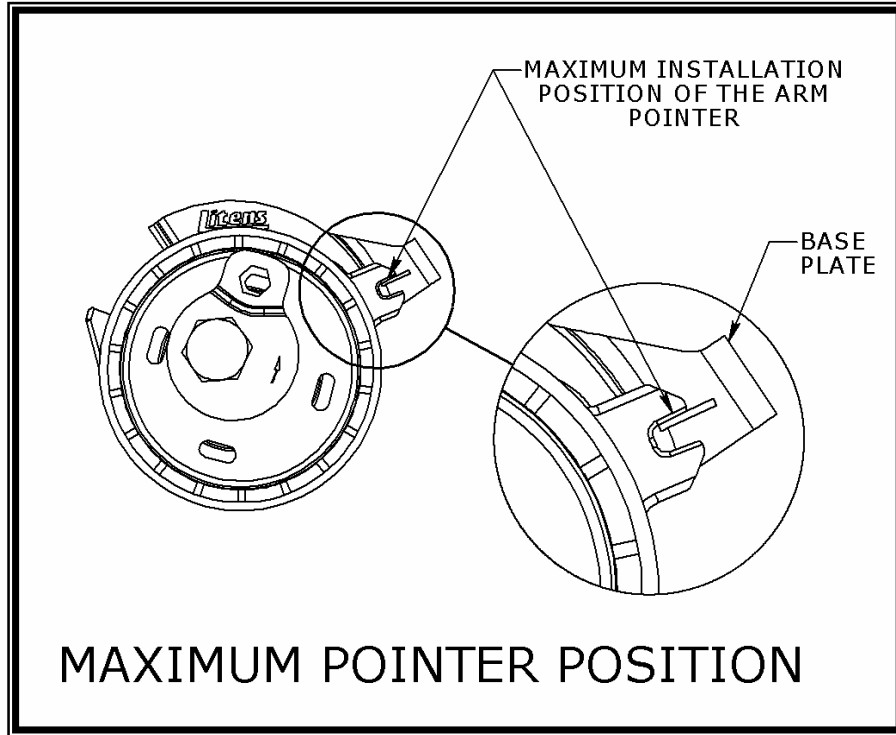

Figure 6: The Arm Pointer is adjusted at the MAXIMUM installation position at TDC.
If the *Arm Pointer* aligns between the **Maximum/Minimum Position Notch**, the installation is complete (See Figs. 6 and 7).
14. Rotate the *Installation Shaft* with the *Hex Key* until the *Arm Pointer* aligns between the **Maximum and Minimum Position Notch** (See Figs 6 and 7).